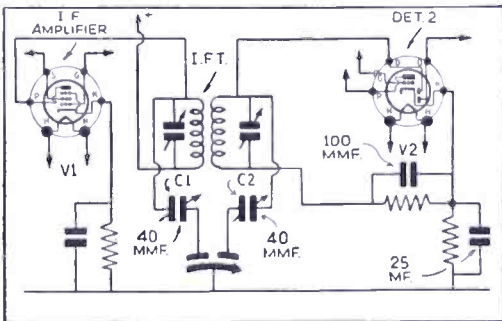

Fig. 1. Variable selectivity by detuning.
**A**S A MEANS of achieving variable selectivity in an existing superhet. receiver without the necessity of scrapping the I.F. transformers, an English experimenter devised the scheme shown in Fig. 1. This works on a system which differs to some extent from the other mechanical and electrical systems which have been previously developed. Instead of "loading" the coils in order to broaden their selectivity curve—or over-coupling them for the same purpose—they are detuned slightly so that their resonance curves do not exactly correspond. This produces the desired effect of widening the over-all selectivity curve for improving the fidelity of reception on local stations.